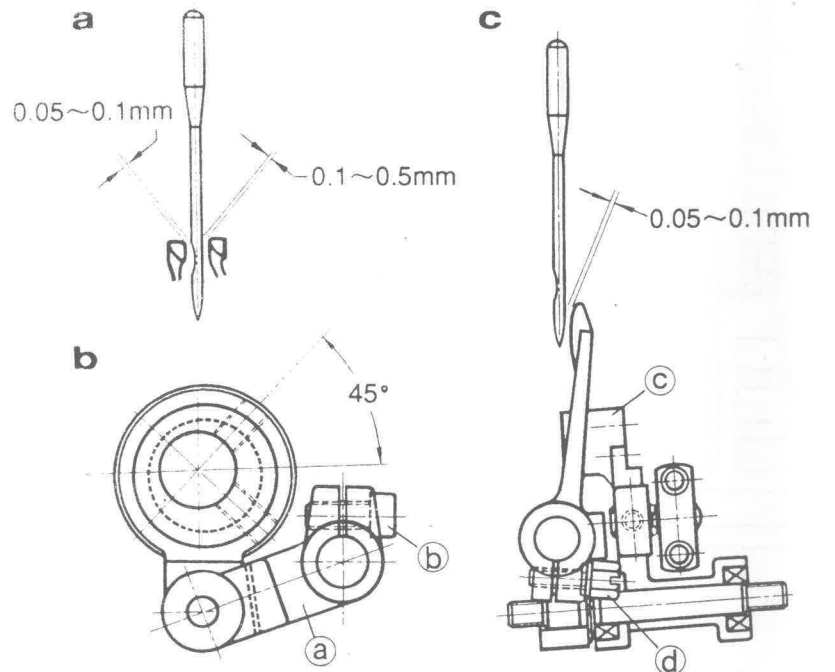

Fig. 7
c) Clearance Between Loper and Needle Adjust the clearance between the needle and the looper to between 0.05-0.1 mm when the needle goes forward and passes the rear of the needle. To obtain the correct clearance, loosen the screw b of the looper rocker frame a and incline c the looper rocker. Adjust the clearance of the needle and looper to between 0.1-0.5 mm when the looper moves forward to the right at the closest point to the needle. (Fig.7-a) To facilitate the adjustment first adjust the looper avoid eccentric cam so that its screw is 45° to center of the main shaft. (Fig.7-b)
Loosen set screw d and adjust the clearance of the needle and looper retainer to between 0.05-0.1 mm as the needle goes up (Fig.7-c)